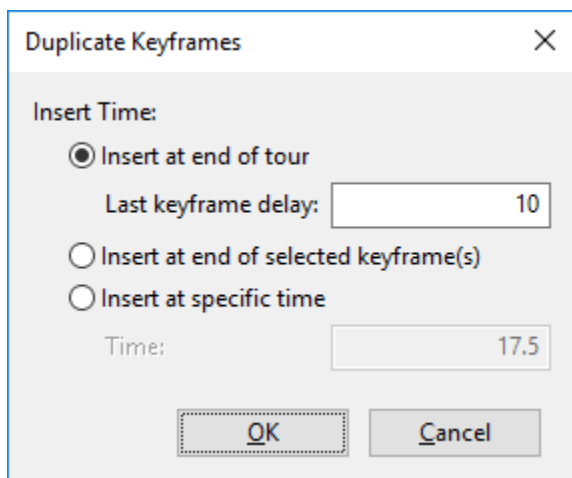

Figure 5-3 Duplicate Keyframes dialog
2. Right-click the keyframes and select **Duplicate**. This will open the **Duplicate Keyframes** dialog as shown in Figure 5-3.